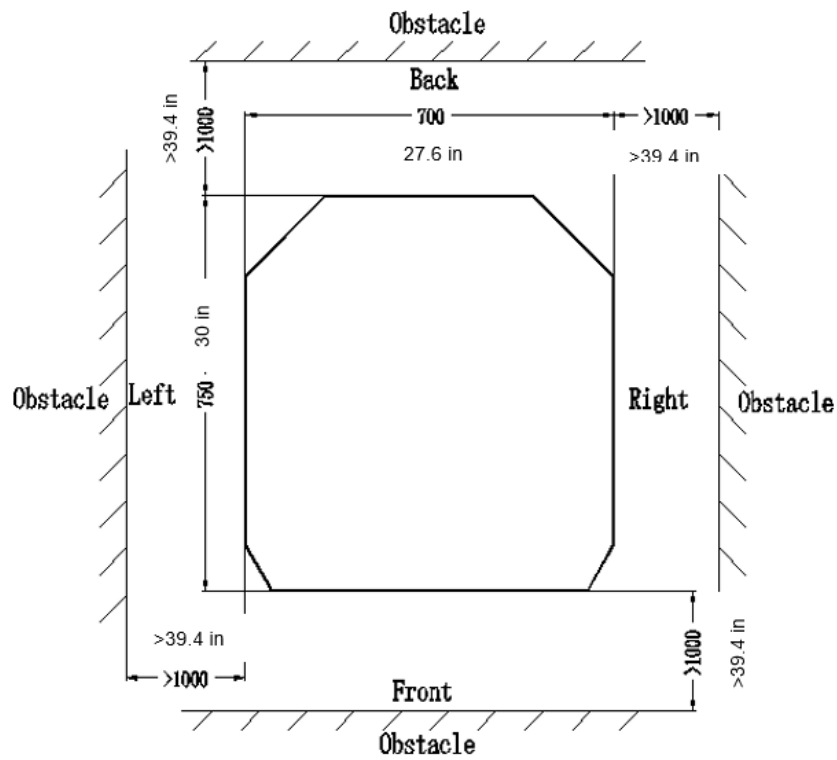

Figure 7.4: Software Version
- For pilot controller's update, firstly power on the controller, and then plug the USB disk into the controller's USB inlet. Then restart the system (disconnect the auxiliary switch, then close it again). Pay attention to the sound. After hearing three beeps, it means the upgrade is complete. You can pull out the USB drive. Check the software version as shown in Figure 7.4.